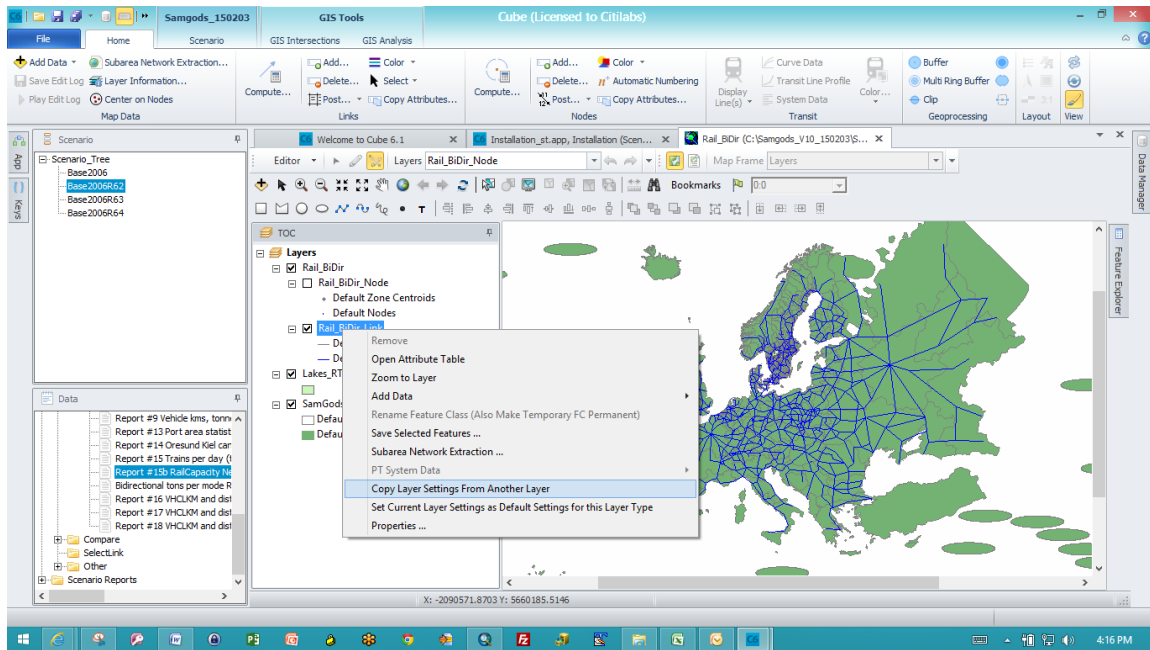

Figure 107 Copy layer settings from another layer
- 2) On the window select "Copy Layer Settings From Another Layer", see Figure 107.